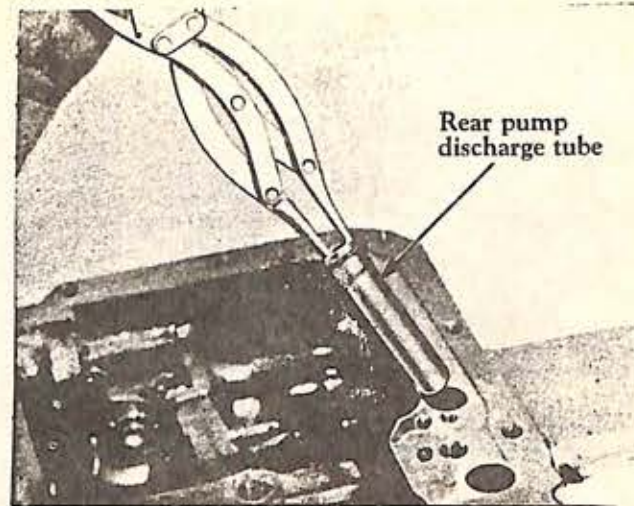

Fig. 34
3. With the use of snap ring pliers, remove the rear pump discharge tube (Fig. 34).